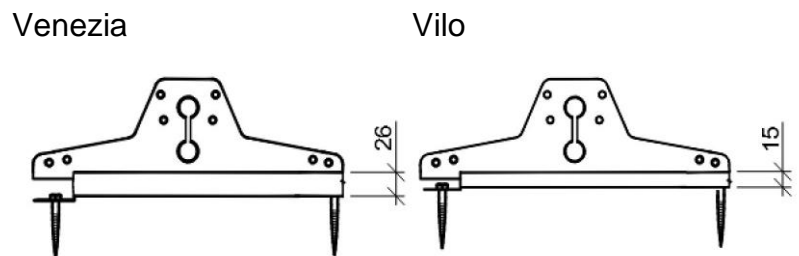

Figure 3.
- Install the PR-bracket plate by placing it onto the edge of the roof protrusion such that the PR-bracket plate is in a vertical position (Figure 3).
- Screw the PR-bracket plate to the roof using 2 M8x100 mm screws (Figure 3).